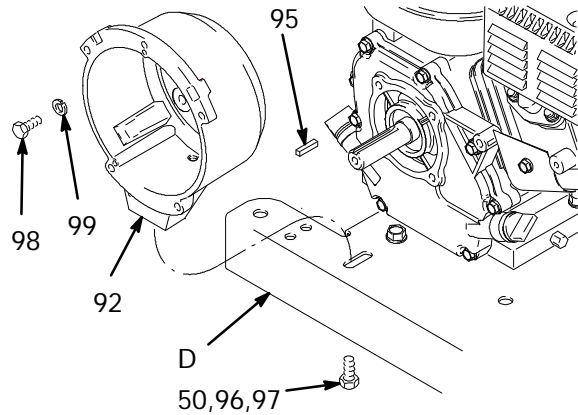

Fig. 12
1. Fig. 12. Remove four capscrews (98) and lockwashers (99) which hold clutch housing (92) to engine.
2. Remove cap screw (96), lockwasher (50), and washer (97) from beneath mounting plate (D).
3. Remove engine key (95).
4. Pull off clutch housing (92).
1. Fig. 12. Push on clutch housing (92).
2. Install cap screw (96), lockwasher (50), and washer (97) from beneath mounting plate (D).
3. Install four capscrews (98) and lockwashers (99) and secure clutch housing (92) to engine.